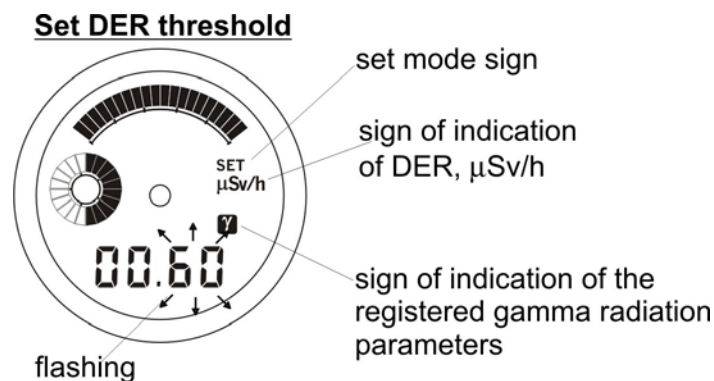

Fig 3.9
3.2.6.3 To set DER threshold switch on DER indication mode according to clause 3.2.2. The long pressing of button 2 (SET) switches on the indication of the preset DER threshold on LCD; the two least significant digits (tenths and hundredths of  $\mu\text{Sv/h}$ ) will be flashing, the set mode sign SET will appear and the filled in linear analogue scale will be indicated (Fig. 3.9).